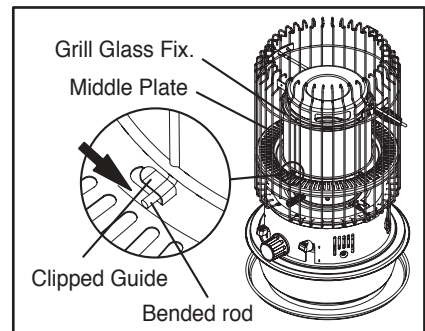

Fig. 4
- FIG 4 related.
Middle plate. (Fig 4)